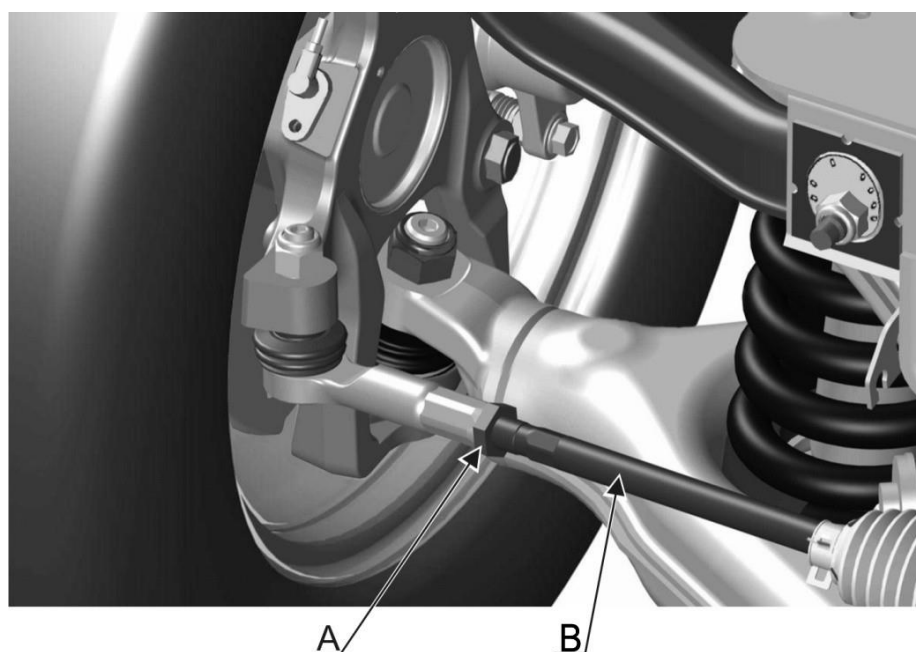

Fig. 4.13. Wheel toe-in adjustment
- loosen the nuts A (Fig. 4.13) and with rotation of rods B achieve the required toe-in. Then tighten the nuts A of the ends to the required torque (see “Tightening torques for threaded joints”).